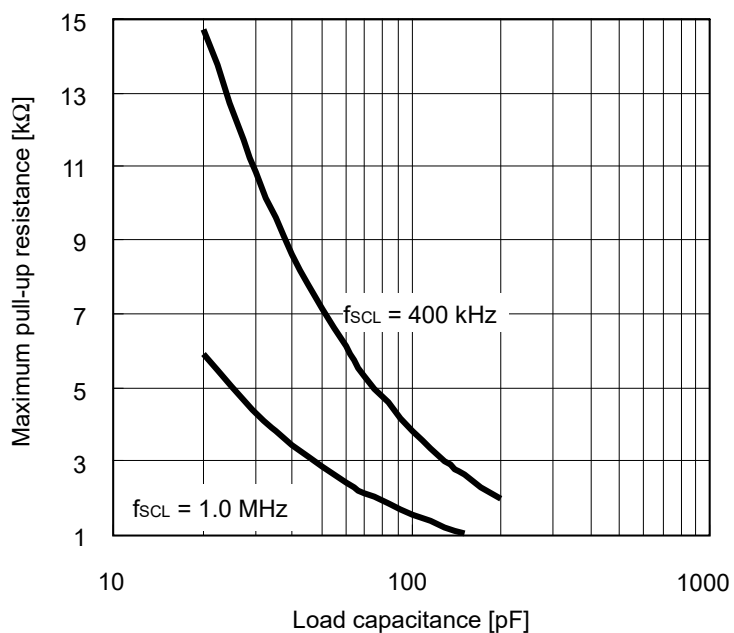

Figure 11 Output Load
*1. Since the output form of the SDA pin is Nch open-drain output, the SDA output delay time is determined by the values of the load resistance and load capacitance outside the IC. **Figure 11** shows the relationship between the output load values.